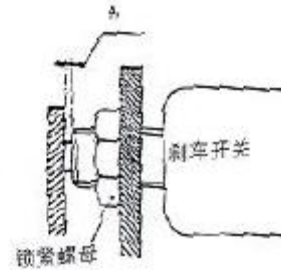

figure15
- (1) Shorten the putter
- (2) Adjust pedal limit bolt. Shown as figure 15, adjust the pedal hei;